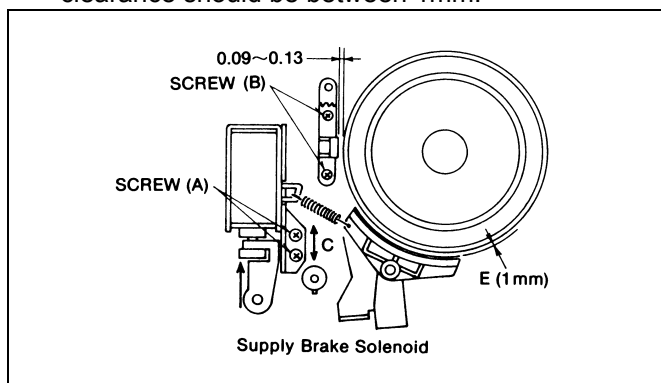
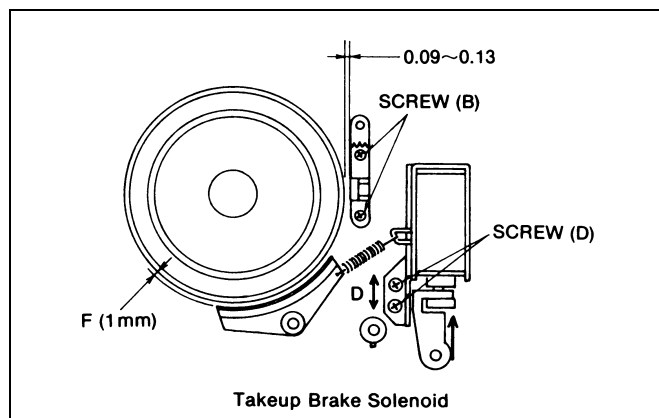

Figure 7-4-2
Figure 7-4-3
1. When moving spring pin in each brake solenoid plunger in direction (C) and (D) as shown in figure 7-4-2 and 7-4-3, observe the clearance (E) between each brake pad and its turntable. This clearance should be between 1mm.
2. If not, loosen 2 screws (A) of supply side and (D) of take up side and adjust brake solenoid so that the clearance (E) is within the specification. And tighten 2 screws (A) and (D).
3. Observe the clearance (F) as shown in figure 7-4-3 and make sure that it is within 0.09mm to 0.13mm.
4. If not, loosen 2 screws (B) and clearance (F) is within the specification. And tighten 2 screws (B).